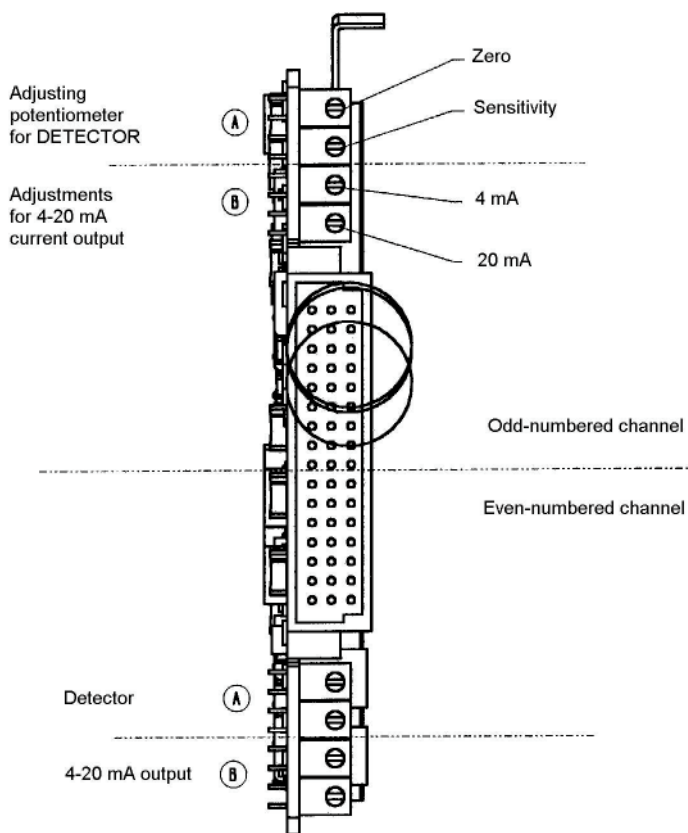

Figure 11: Potentiometer Layout on Front of Channel Board
1. First adjust MX52 CONTROL display to zero, adjust the Control channel zero by using on the ZERO potentiometer for the channel (Item A, Figure 11) read ZERO on the MX52 display.
2. Second adjust the MX52 CONTROL zero current output, adjust the 4-20mA current output to 4 mA by using the corresponding 4 mA potentiometer: (Item B, Figure 11).
3. Third match the MX52 CONTROL display to the S/T display, set the value of the calibration gas on the MX52 display panel by using the channel sensitivity potentiometer (Item A, Figure 11).
4. Finally set the MX52 CONTROL current to the calibration output, adjust the current output by using the 20 mA potentiometer to the appropriate output for the calibration gas being used (Item B, Figure 11).